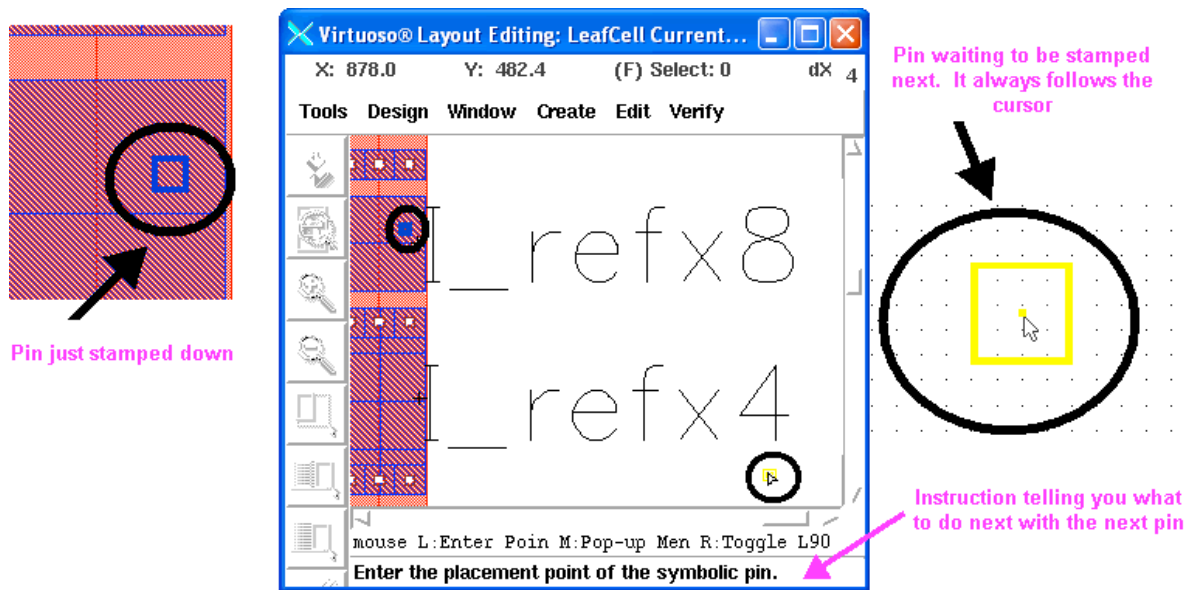

Figure 83: Stamping the output pin I_{refx8} .
23. Click once to stamp the first pin down (Figure 83), which is terminal *I_refx8*.